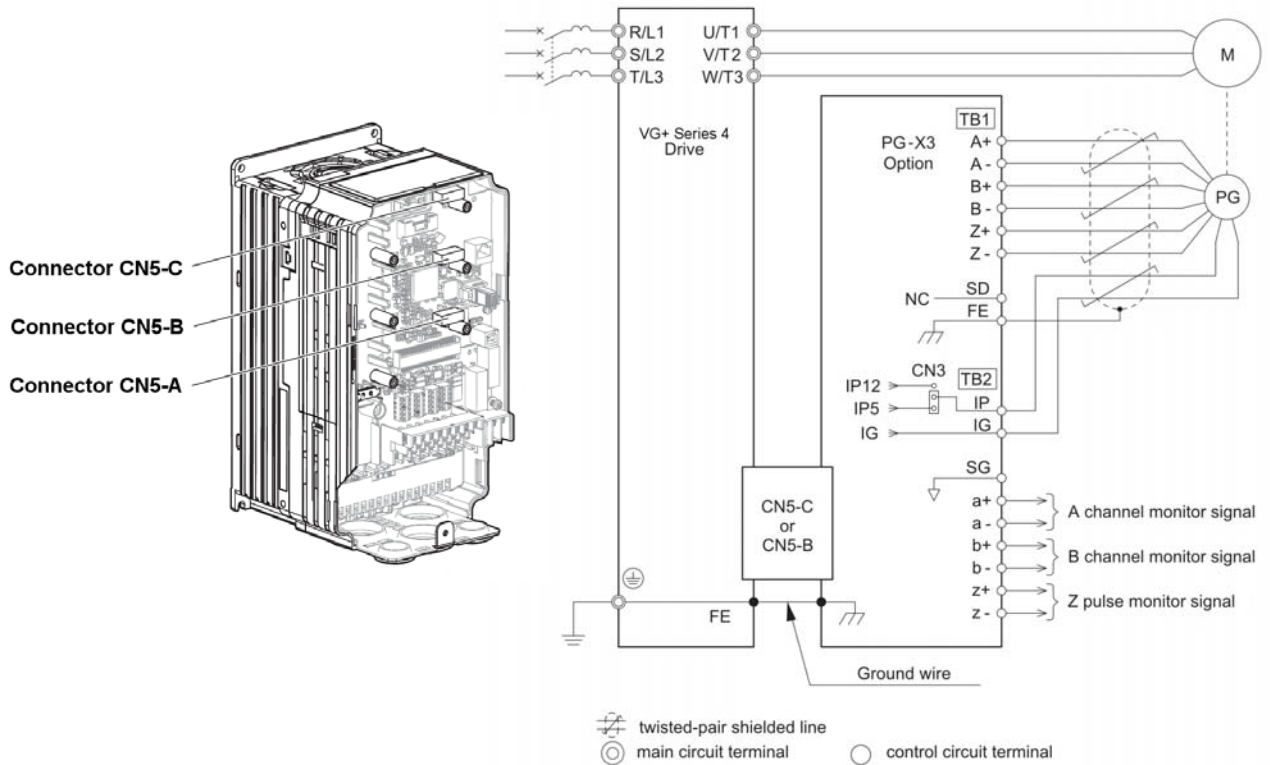

Figure 3-17: PG-X3 Encoder Card Wiring
2. Connect the encoder to the PG-X3 Encoder Interface Card. Refer to Figure 3-17: “PG-X3 Encoder Card Wiring” on page 3-25.